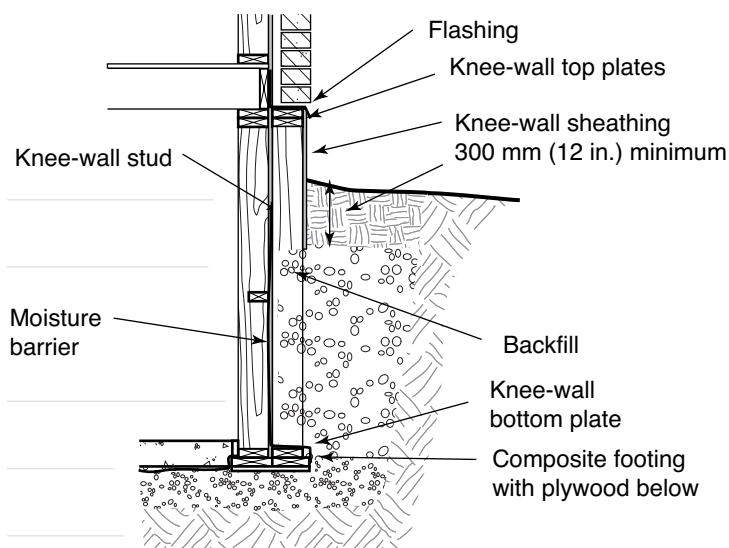

FIGURE 47
- ◆ To support masonry veneer, provide a sufficiently wide foundation wall, or construct a separate 38 x 89-mm (2 x 4-in.) knee wall toe-nailed in line with the main wall and positioned on the exterior of the sheathing and moisture barrier (see Figure 47).